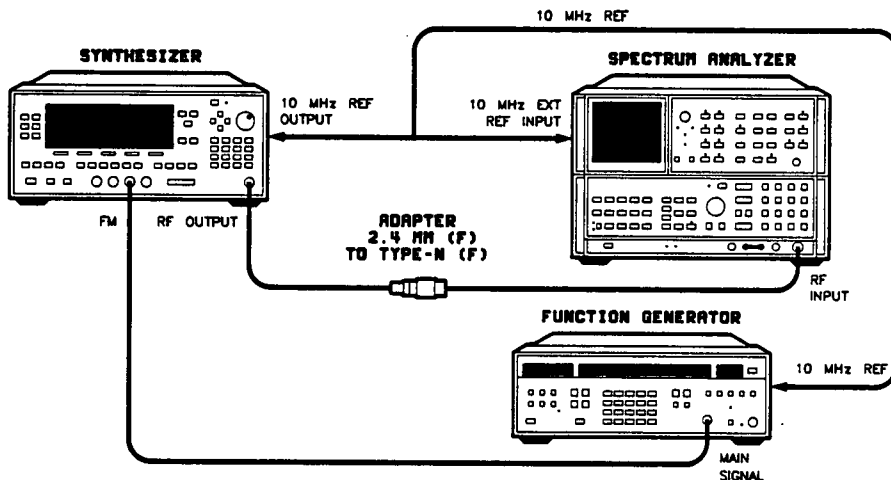

Figure 2-25. FM Accuracy Test Setup
1. Connect the equipment as shown in figure 2-25. Preset all instruments and let them warm up for at least one hour.